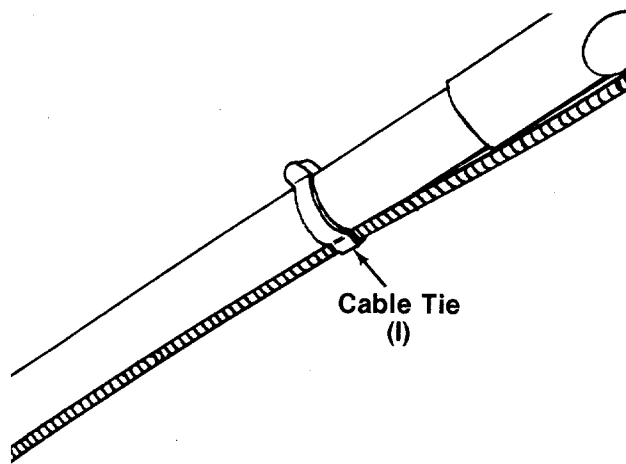

FIGURE 9.
- Secure throttle control cable and brake cable to upper and lower handles with cable ties (I). See figure 9.